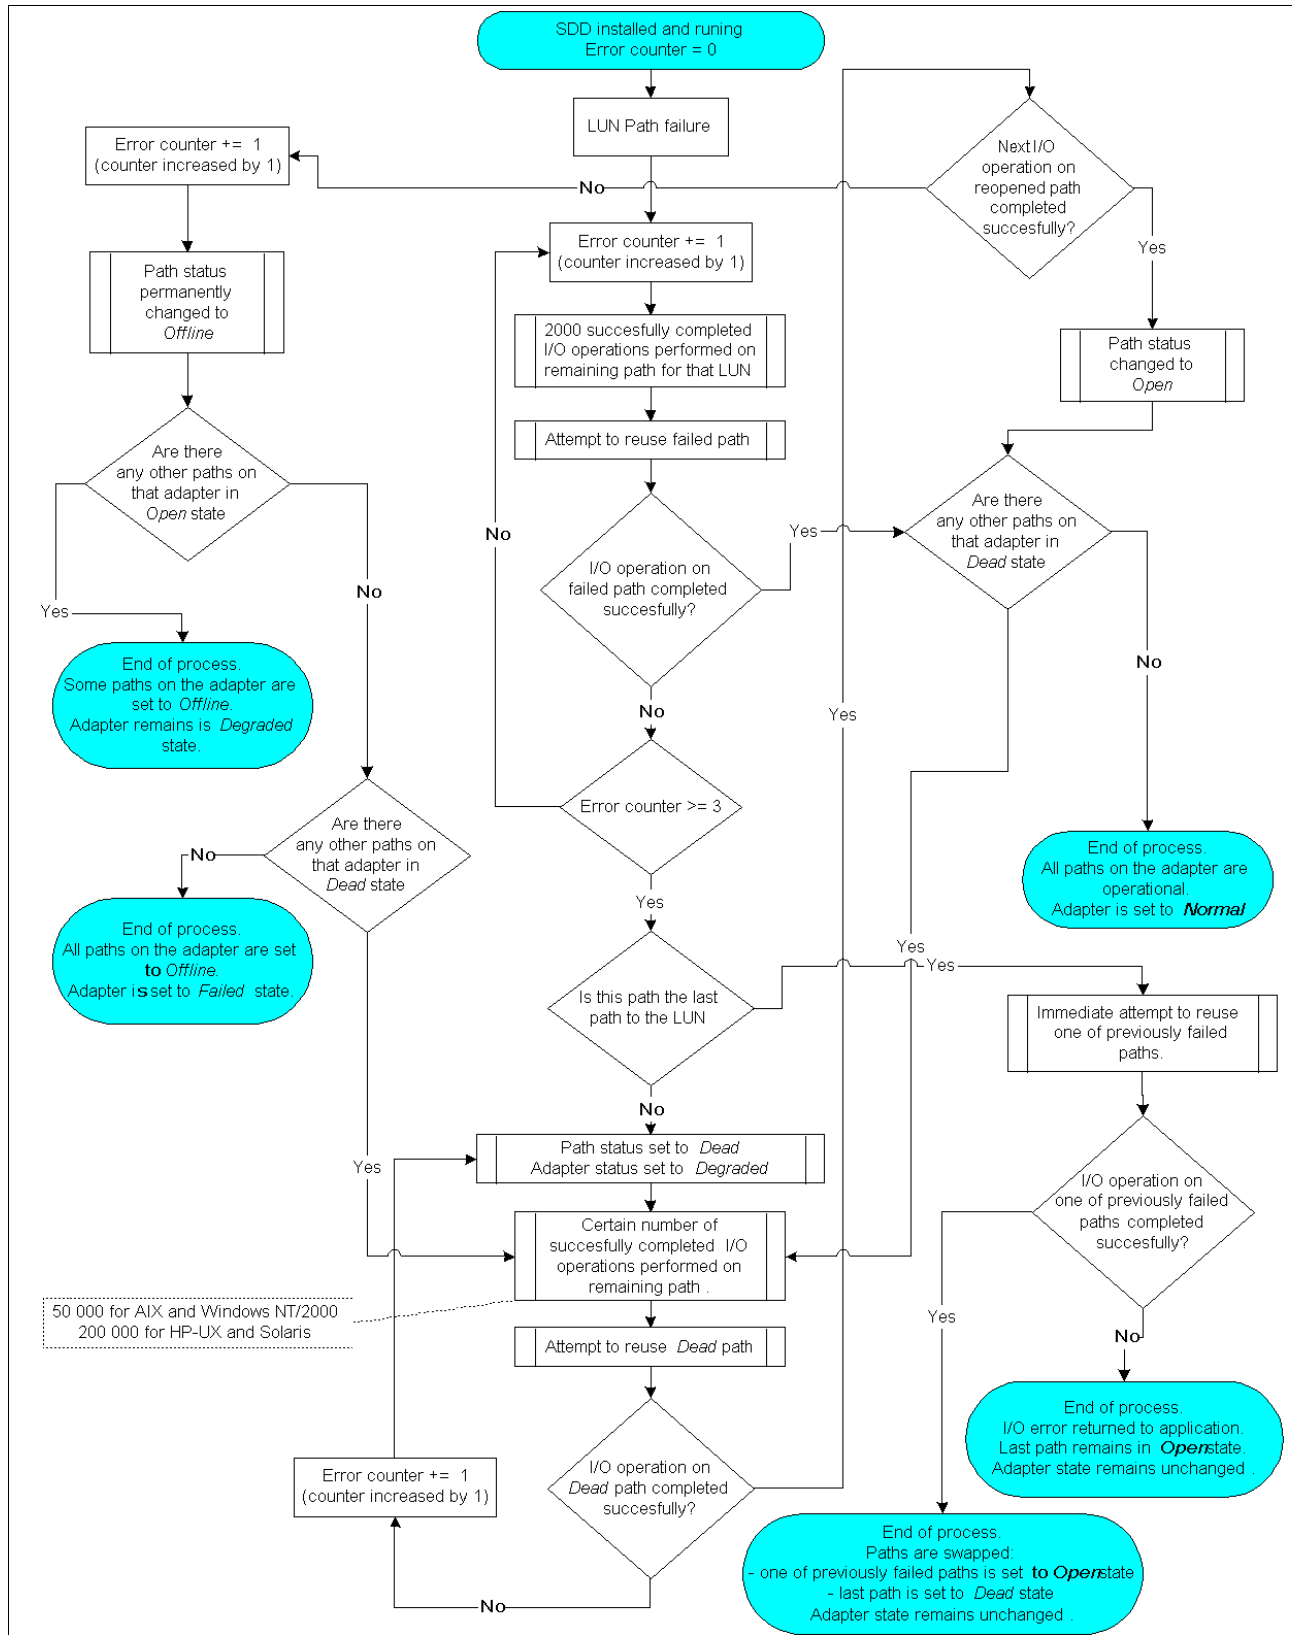

Figure 3-3 SDD path failover algorithm
The path failover algorithm is shown in the flowchart form in Figure 3-3.
**Important:** The algorithm on Figure 3-3 shows clearly, that SDD attempts to automatically fail back the path to the LUN from its Dead state to Open *only based on number of I/O requests completed on remaining and operational paths to that LUN*. This process is *not time-dependent*. In different environments, depending on I/O load, it may take from several seconds up to many hours. Remember, that you can always (at any time) manually bring the path online by using the datapath command.